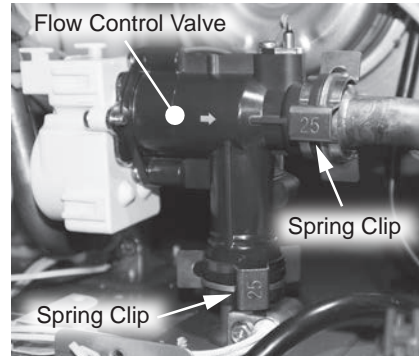

Figure 176 - Removing spring clips from flow control valve
**15** Remove the two (2) spring clips (size 25) securing the flow control valve to the piping system. Place the spring clips aside in a safe place for reinstallation. See Figure 176.
**18** Locate the two (2) O-rings provided in the kit.
**21** Locate the two (2) spring clips previously removed in **Step 15**. Install spring clips to flow control valve, securing it to piping connections. See Figure 176. Verify water connections are tight and will not leak.